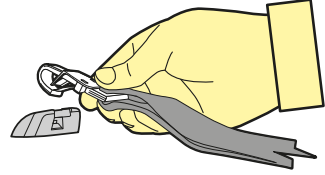

Figure 11
Step 5: Hook the attachment clip to the anchor fitting. Ensure there are no twists in the top tether strap (refer to Figure 11).